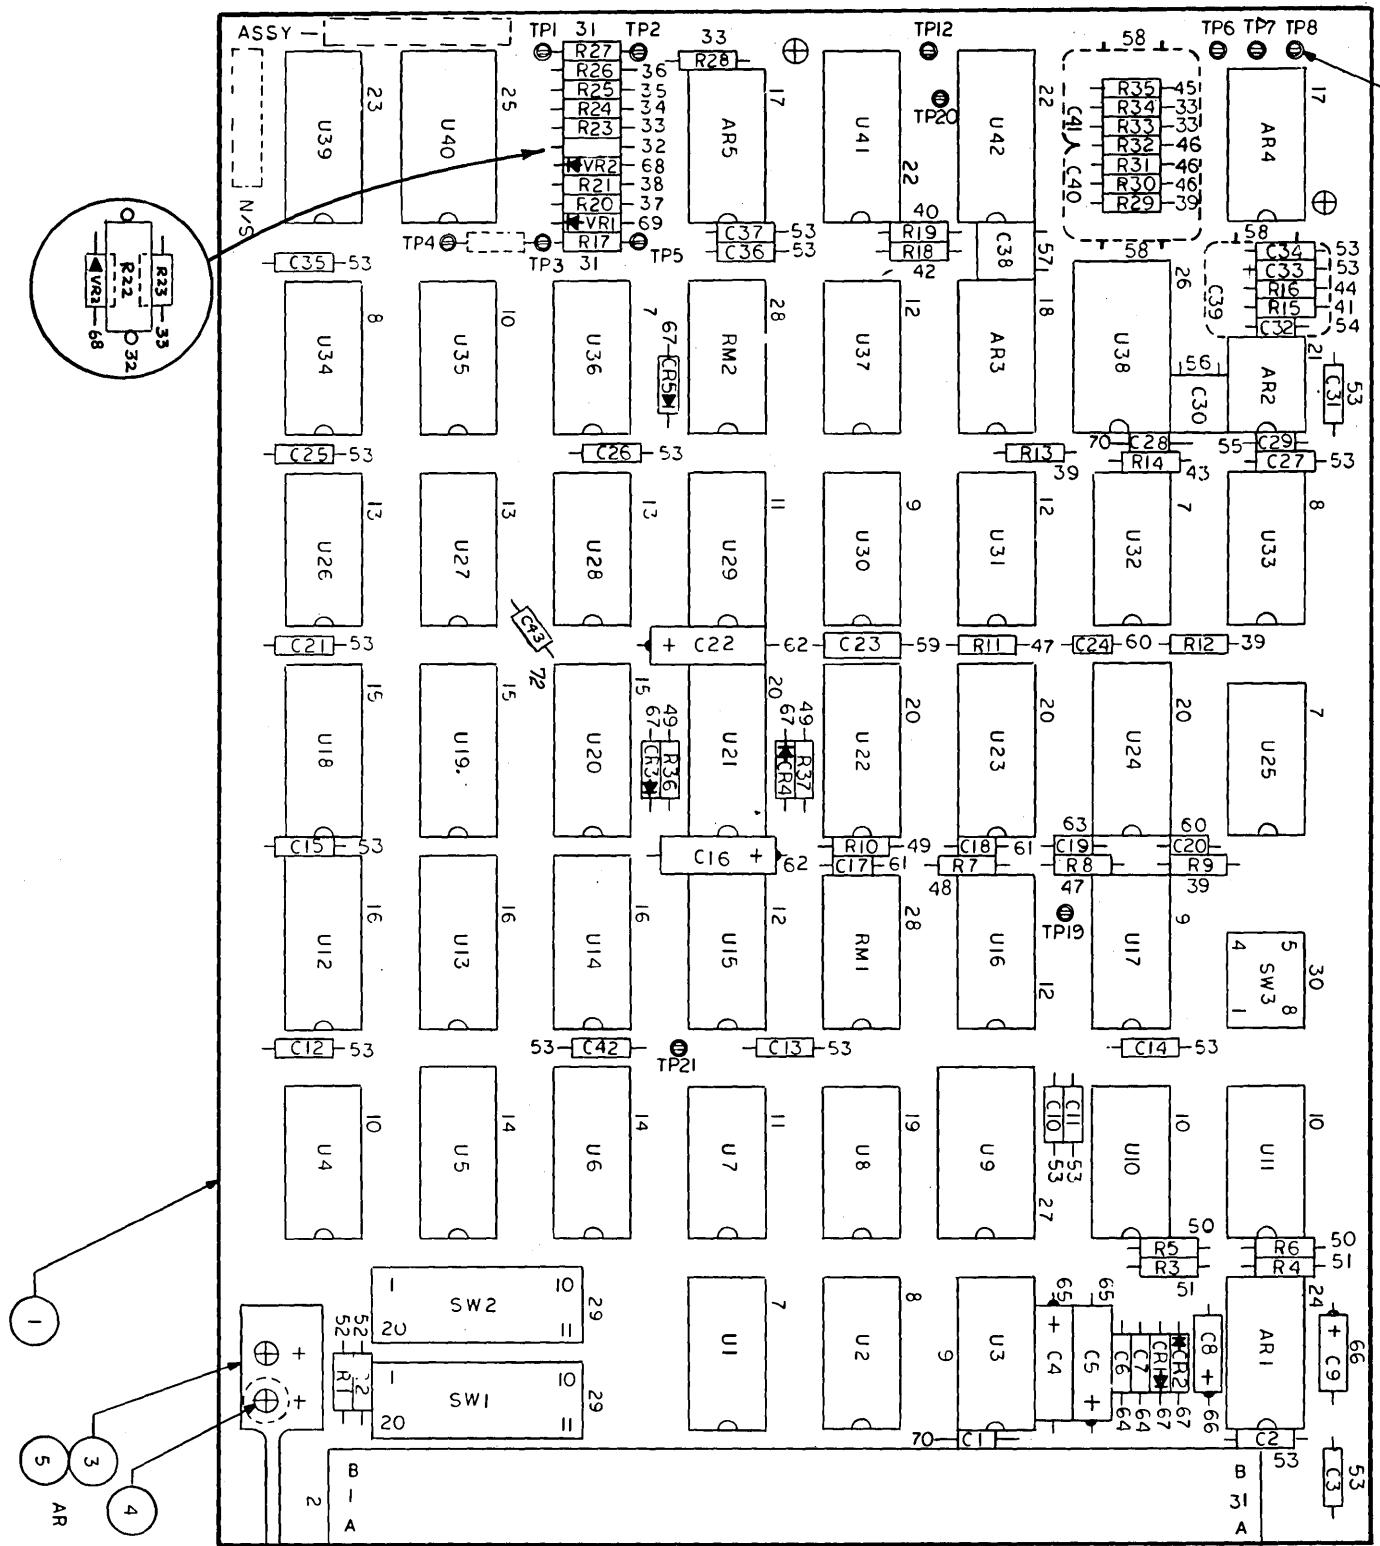

FIGURE LE 5-1. SERVO BOARD
8. On Servo Board, ground TP20 and TP21. (see Figure LE 5-1)
19. Set actuator at forward stop and reconnect A1P2. (See Figure LE 5-1)